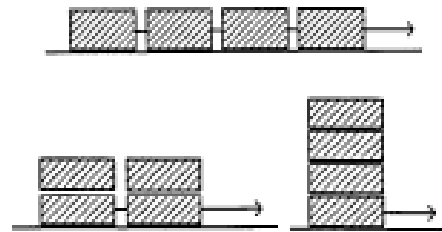

Figure 3
In order to arrive at equation (1), we have implicitly claimed that the force on mass M due to static friction is related only to the normal force Mg . Notice in Figure 3 that the total weight of the blocks (and therefore the normal force of the table on the blocks) is the same even though the amount of surface area of the blocks in contact with the table varies depending on the stacking of the blocks.